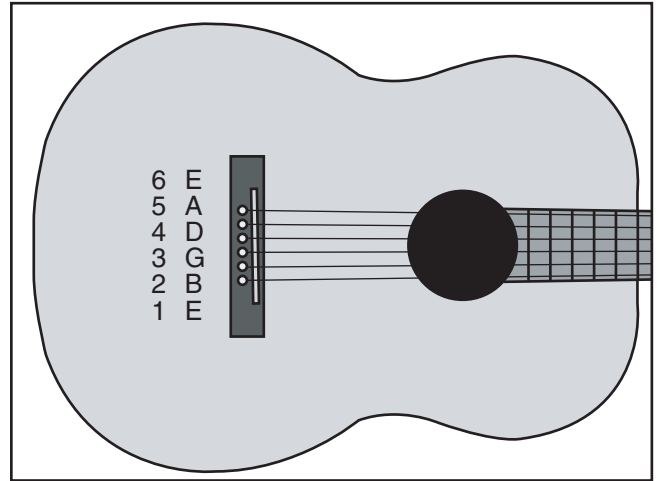

Figure 24. String tuning notes.
- The goal when tuning is to make the strings in tune with one another. Standard tuning is shown in **Figure 24**.